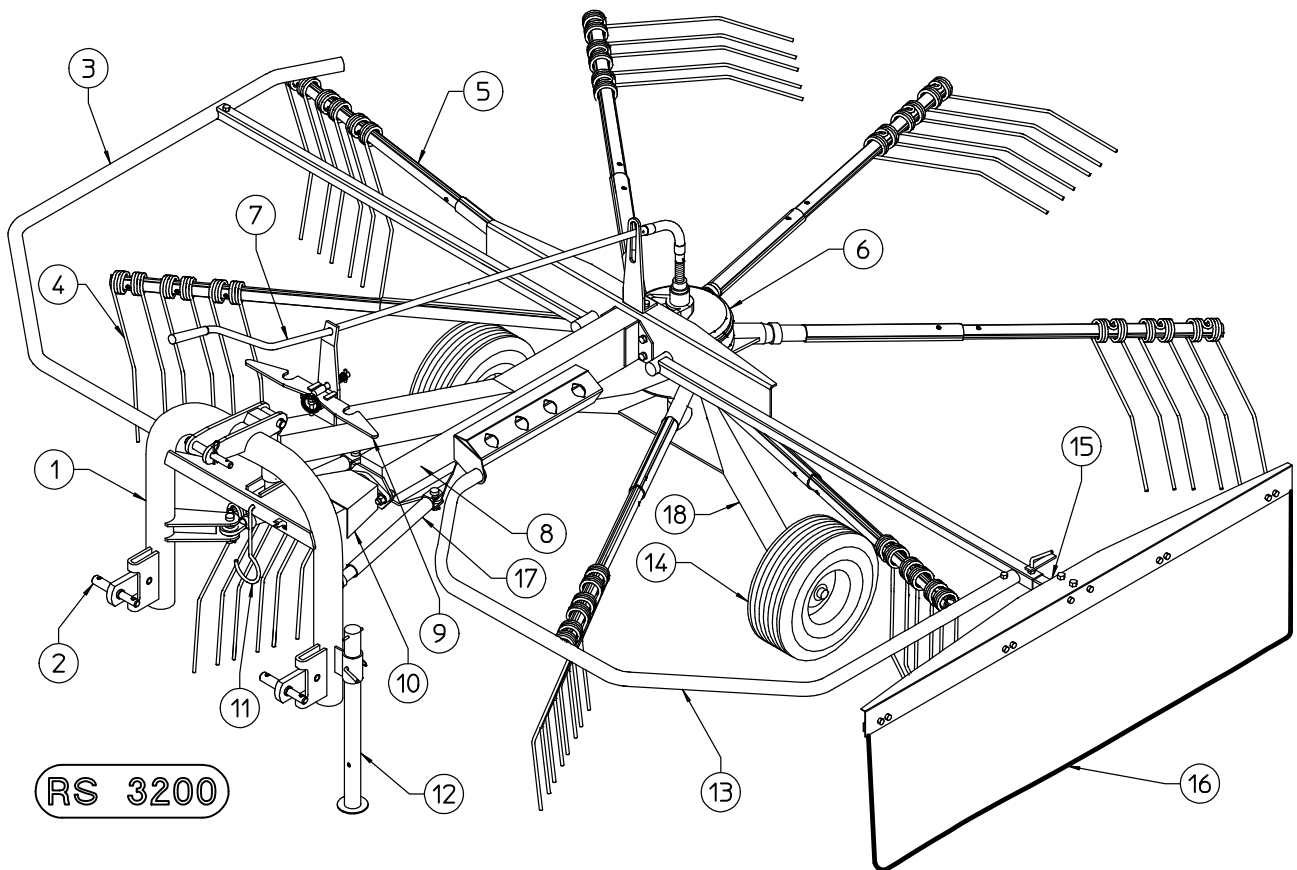

**FIG.2**
36. Always disengage the power take-off when the Cardan (P.T.O.) shaft is at too wide an angle (it should never be more than 35° - Fig.2) and when it is not in use.